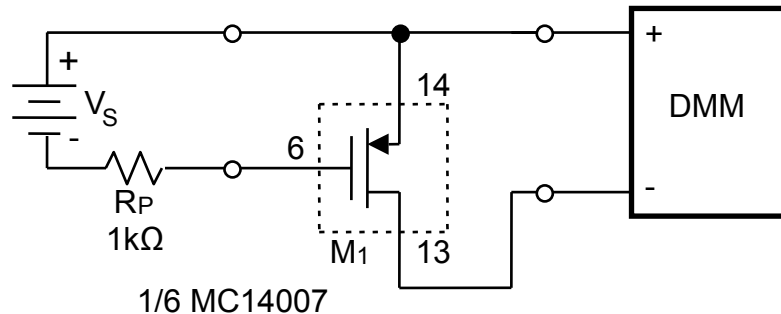

Figure 4-2.
- L5. Build the circuit shown in Fig. 4-2, below. This circuit will be used to determine the process parameters $k'_p(W_p/L_p)$ and threshold voltage V_{tp} for one of the P-Channel MOSFETS within the MC14007 MOSFET array.